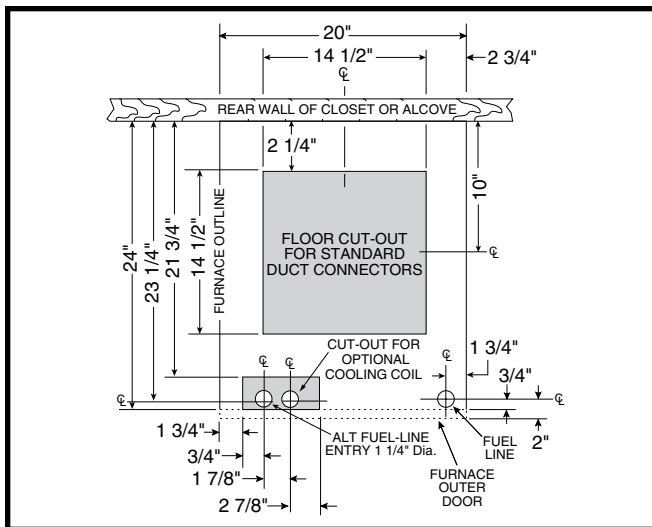
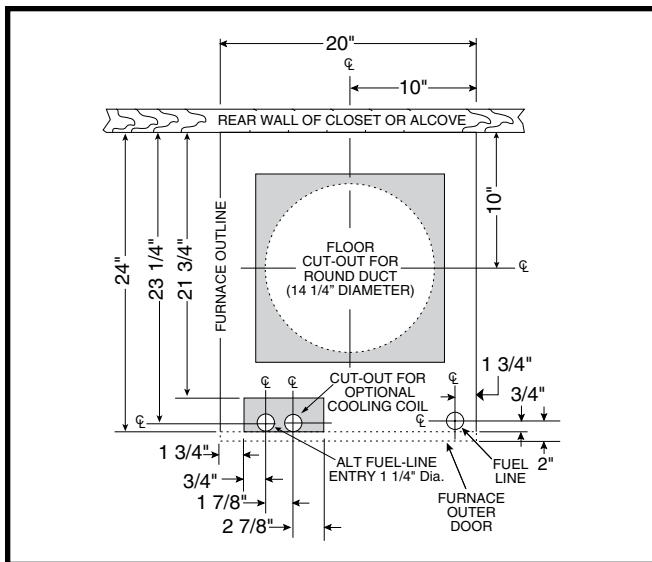

Figure 6. Cut-Out Dimensions for Standard Duct Connectors
Figure 7. Cut-Out Dimensions for Round Duct Connectors
Floor cut-outs and fuel line holes must be carefully located to avoid misalignment of the furnace, and vent piping. To locate standard ducts see Figure 6 \(page 9\). For round ducts, see Figure 7.
2. Using the centerline as a starting point, draw the rest of the duct cut-out to the dimensions shown in Figure 6 or Figure 7.
6. Measure and drill gas hole and cut out for cooling coil (if applicable). See Figure 6 or Figure 7.
3. Add dimensions A + B (and X from Table 5, (page 12) & Figure 6 if slant deck flashing is used). The total length of [A] + [B] + [X] must be within the minimum and maximum range of the Roof Jack listed in Table 4.